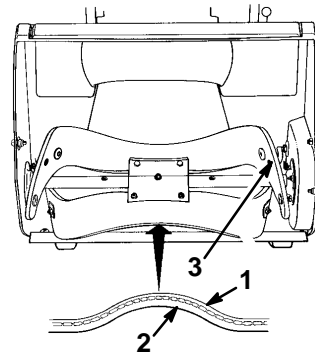

Figure 19
1. Examine the rotor blade edge for the difference in layer thickness (Fig. 19). Some rotor blades have a part number on the thick side of the blade.